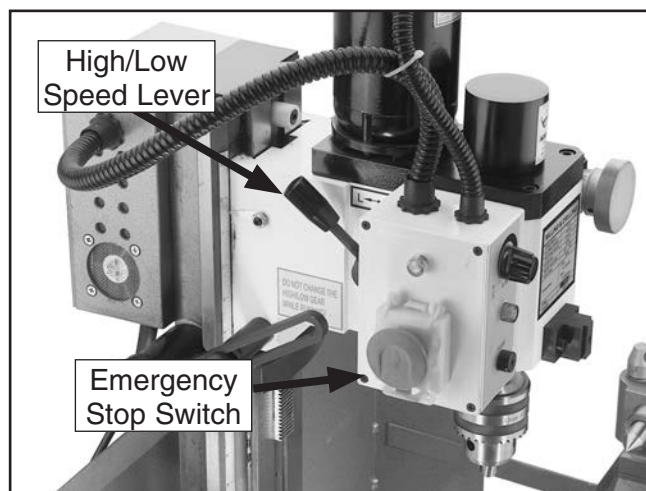

Figure 11. Mill/drill controls.
3. Familiarize yourself with the mill/drill controls shown in **Figures 11 and 12**.